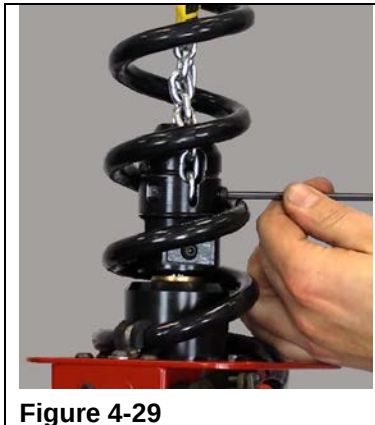

Figure 4-29
- Step 38. Next, the last link of the SDS chain is installed into the bottom slot of the chain nest. The chain must be kept parallel with no twists. The bolt is installed through the last link of the SDS and into the chain nest. (Refer to Figure 4-29)